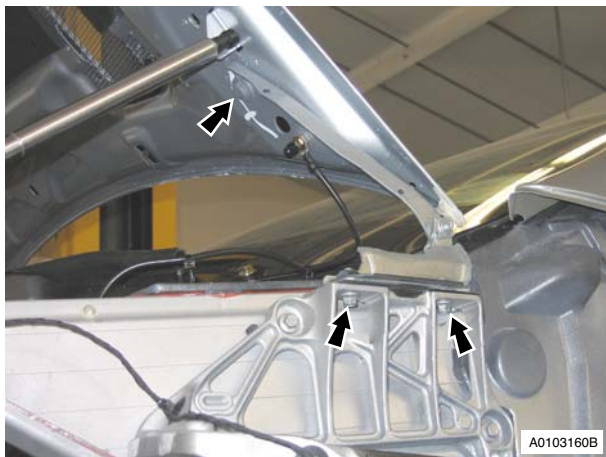

Figure 3
7. Remove bolts hinge to hood (x2) and body (x2) and remove hinge and collect shims (see Figure 3).